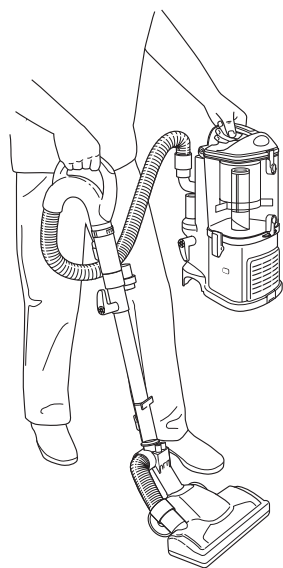

Fig. 16
- 2 Attach the floor nozzle onto the end of the wand. **(Fig. 16)**